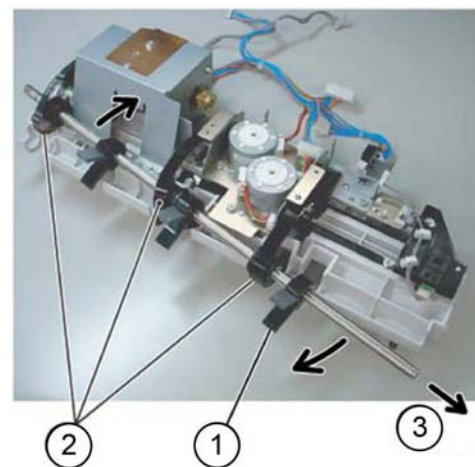

Figure 3 Set clamp shaft removal
5. Remove the set clamp shaft, Figure 3:
- a. Move the set clamp shaft (1) in the direction of the arrow.
- b. Remove the three belts (2) from the pulleys.
- c. Remove the set clamp shaft in the direction of the arrow (3).